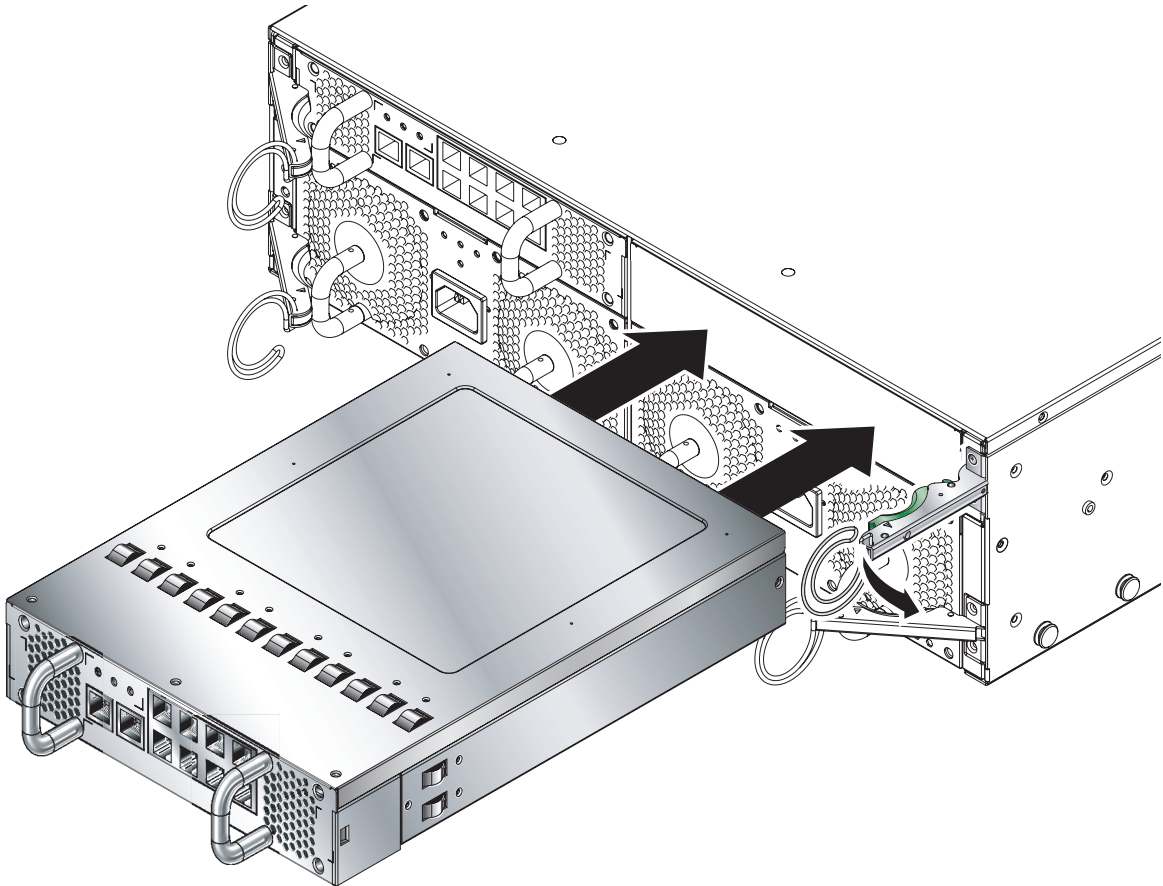

FIGURE 12-11 Aligning the SSC Before Insertion
2. **Ensure that the chassis ejector lever is opened fully and does not obstruct the chassis opening (FIGURE 12-11).**